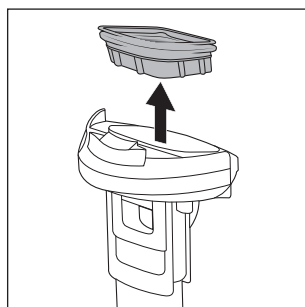

Fig. 24
- ◆ Remove the dirt filter **10** from the waste water tank **2** by gripping into the side openings next to the dirt filter **10** with your fingers and pulling it upwards off the lid of the waste water tank **9** (see fig. 24).